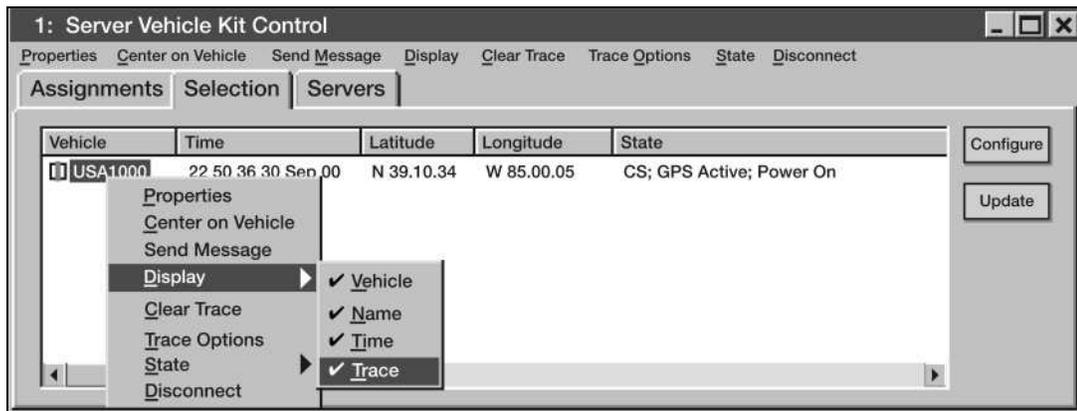

Figure 3-116. Trace Function
- e. Enable Trace Function (see Figure 3-116).
- (1) Right click on the map to get the pop up menu.
- (2) Choose the Select Vehicle option from the pop up menu.
- (3) Click on the vehicle you wish to trace. The Server Kit Vehicle Kit Control window will open with the Selection tab containing a list of vehicles.
- (4) Right click on the vehicle you wish to trace and then select Display Trace.